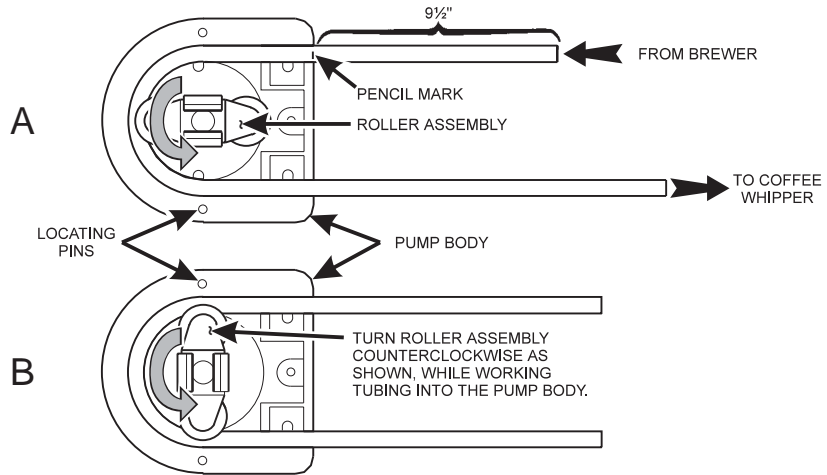

Figure 2
- c. Work the tubing into the pump body while turning the roller assembly counterclockwise, as shown. Do not force the tubing. Make sure the top of the tubing is even with the tops of the rollers. If it is lower or higher, it can get pinched, which can lead to premature failure or leaks. Before installing the pump cover, turn the roller assembly as shown in (See figure 2), view A.